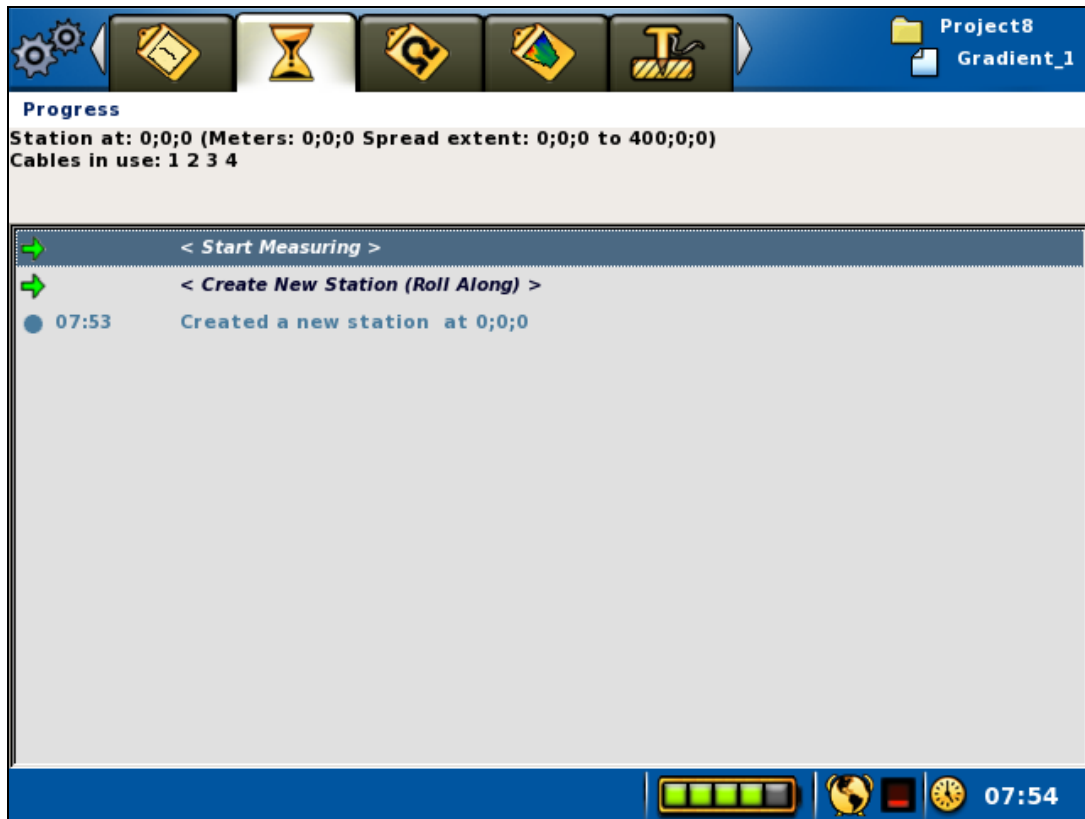
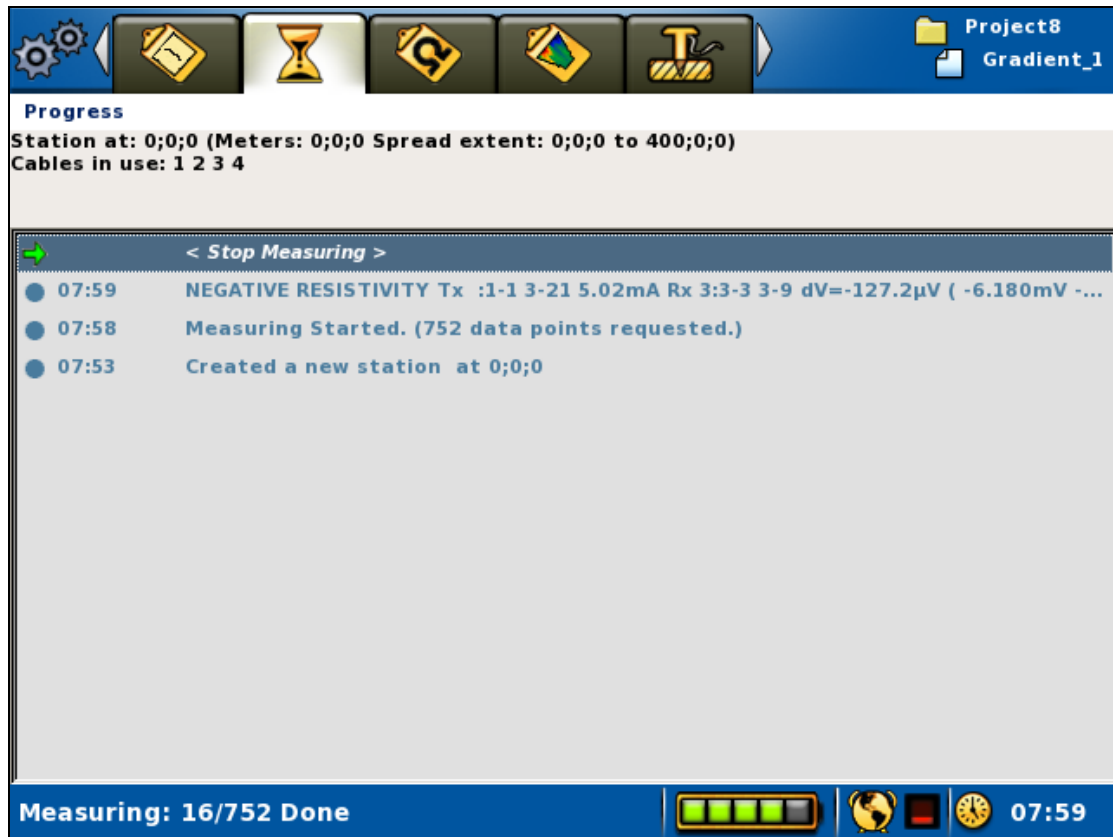

Figure 50. Start measuring command on measuring progress view
Figure 53. Progress view
- Move the highlight to the <Start Measuring> row (Figure 50)
The measuring progress is shown on the “*Measure/Progress*” View (Figure 53).
The top of the “*Measure/Progress*” View shows the coordinate location of the cable spread, and which of the cables that still remain to be used by the protocol on the present measurement station (Figure 50 and Figure 53). If all measurements for the cable have been completed it is removed from the list, so that only cables with remaining measurements on the current station are listed on that line.
- Move the highlight to the <Stop Measuring> row (Figure 53)